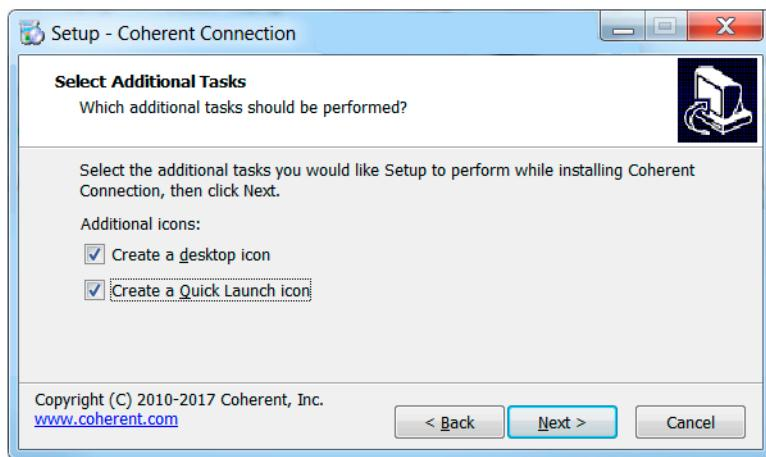

Figure 8-8. Set Desktop or Quick Launch Icon
10. You can create an icon for the software either on your desktop or for a Quick Launch (or both). As shown in Figure 8-8, click the appropriate check box, and then click Next.